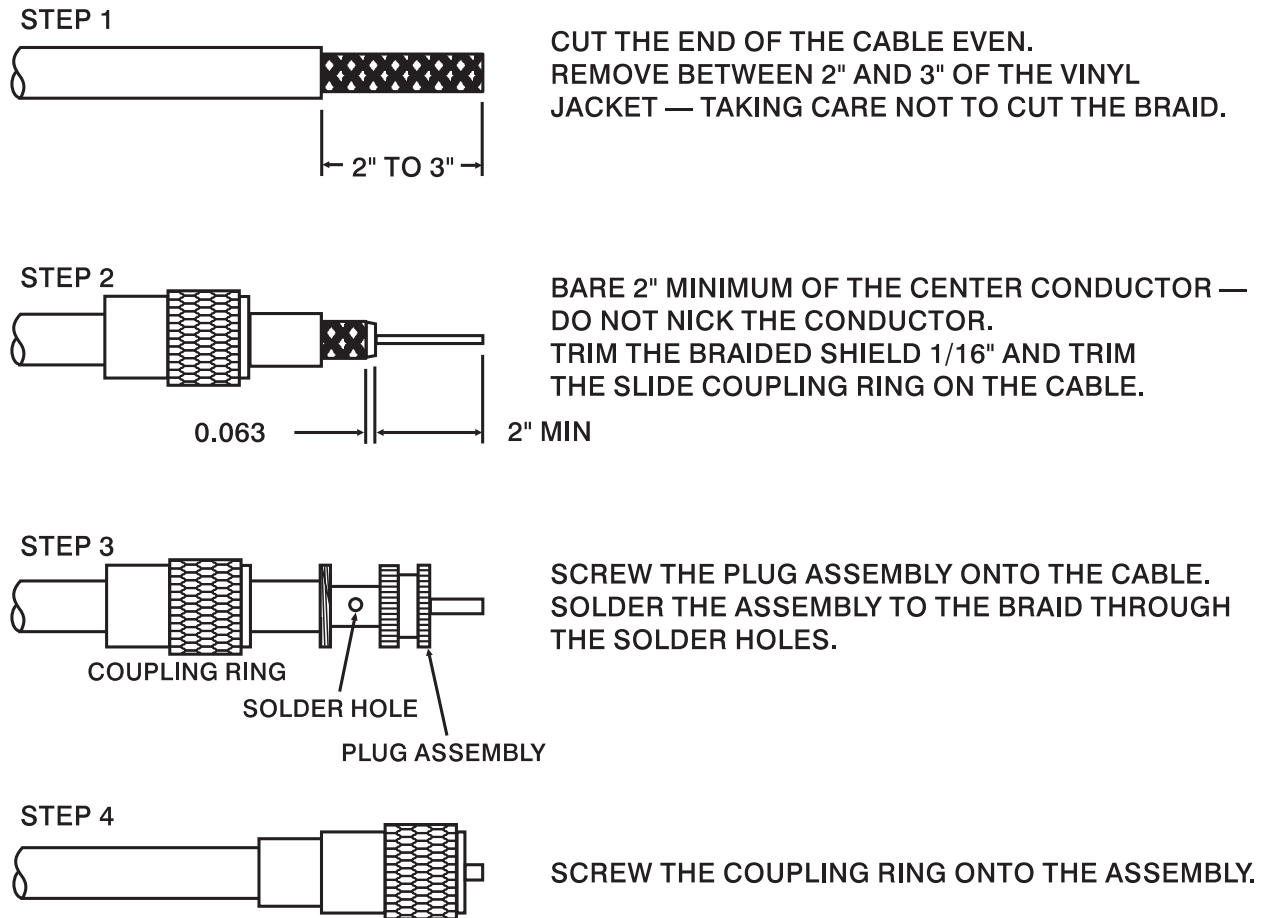

Figure 3-2. Cable Termination Diagram (9651A13).
1. Attach both ends of the coaxial cable in accordance with the Cable Termination Diagram (see Figure 3-2, terminal block lugs, as required).